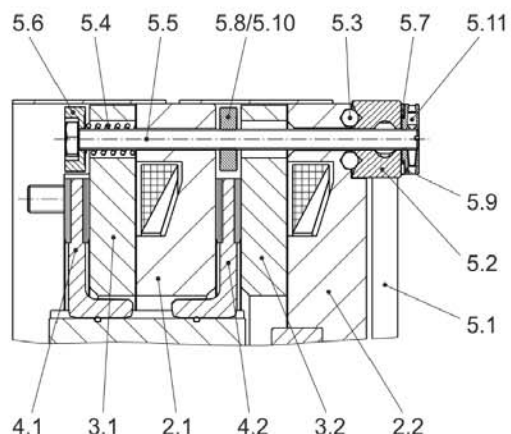

Fig. 8
9. Lightly grease 2 x 4 steel balls (5.3) (with a bearing grease) and insert into the grooves in the coil carrier (2.2) (Fig. 8).